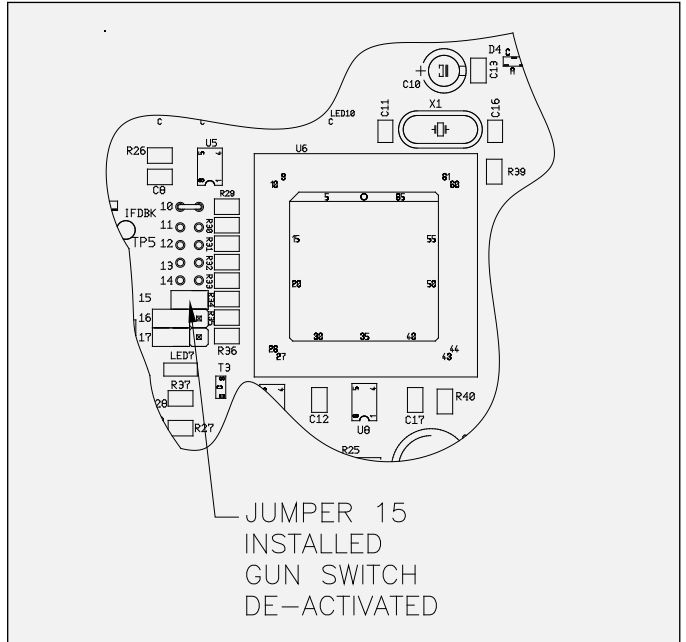

Figure 10: Jumper Location - Applicator Switch Lockout
2. Place the jumper across the two (2) pins at location 15 on the main PC board (see Figure 10).